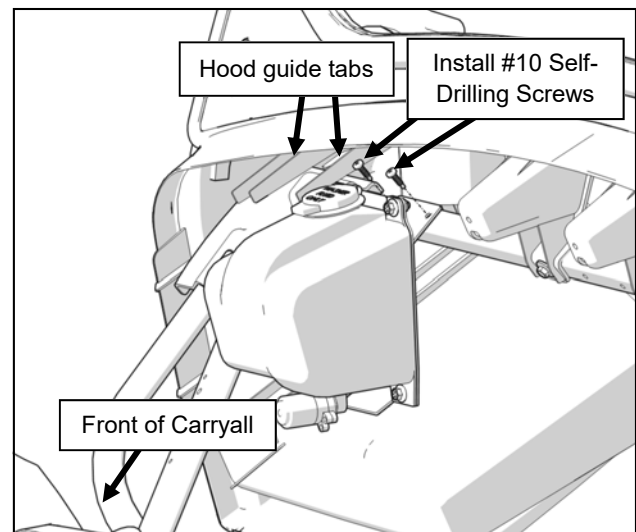

Fig. 1.2
- 1.2 Remove the front hood. Place the reservoir bracket on top of the upper frame tube on the right (passenger's side) of the front compartment. See figure 1.2. Locate the reservoir so that the edge of the cab is a 1/4" to the left of the guide tabs for the hood at the rear of the front compartment.
- 1.3 Attach the reservoir bracket to the frame via two #10 self-drilling screws See figure 1.2.